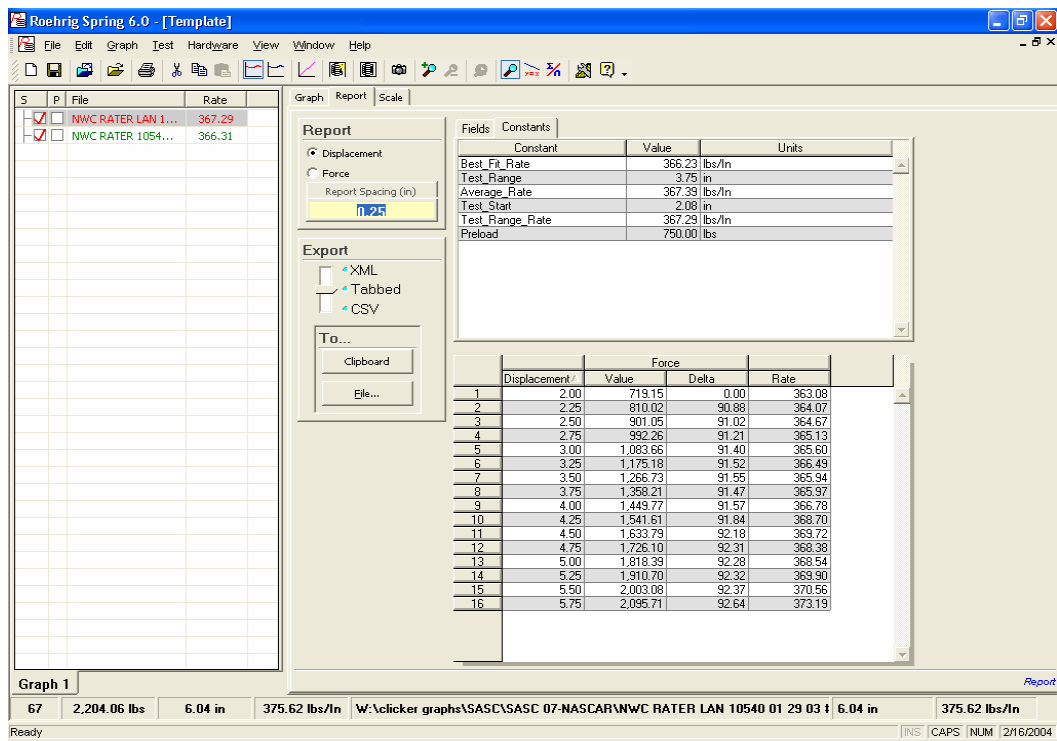

figure:6
**Report** box on the right of the screen you can define how the data is displayed (figure:6). The numeric report can be exported to a file or the clipboard in three different formats using the **Export** box located under the Report box. If you are unfamiliar with these formats experiment with each to determine what report will fit your needs The **Test Data** box describes the test that the data is being displayed for. The Avg. Rate is the average of all data points in the test range the **Test Range** rate is a rate average of the first and last data points in the test range. To move between data files on the graph or data screen use the up and down arrows.